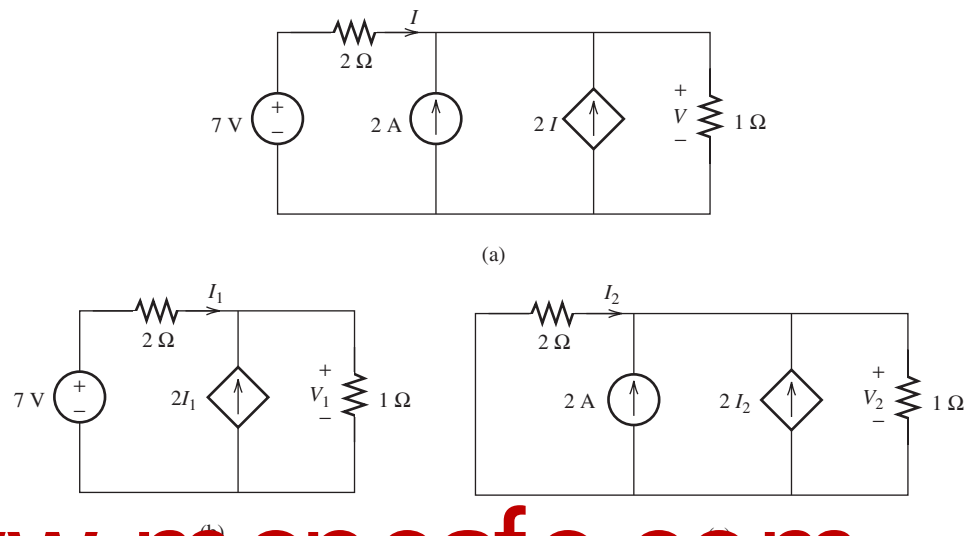

FIGURE 3.86 Circuits for example 3.38 (a) The original circuit. (b) Setting 2 A to zero. (c) Setting 7 V to zero.
Find the current, I , in Figure 3.86 using the superposition technique.
Equate the 7-V voltage sources and the 2-A current sources to zero, respectively. The resulting circuits and their equivalents are shown in Figure 3.86.
According to the equivalent circuit in Figure 3.86(b), the node voltage due to the 7-V voltage source (V) is:
Similarly, according to the equivalent circuit in Figure 3.86(c), the node voltage due to the 2-A current source (V) is:
According to the superposition principle, the current, I , in Figure 3.86(a) is the summation of the currents I_1 and I_2 . Thus: